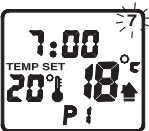

Figure 12
- Press or to select day of week. Upon finished selecting "day of week" pressing to start setting for all 6-program-period in the Daily-programming-block (Each of 5+1+1D, 7DS, 7D has individual program-block defining. On LCD display, it flashes digits on top of LCD-display subject to user's selection of day of week) (Figure 12)